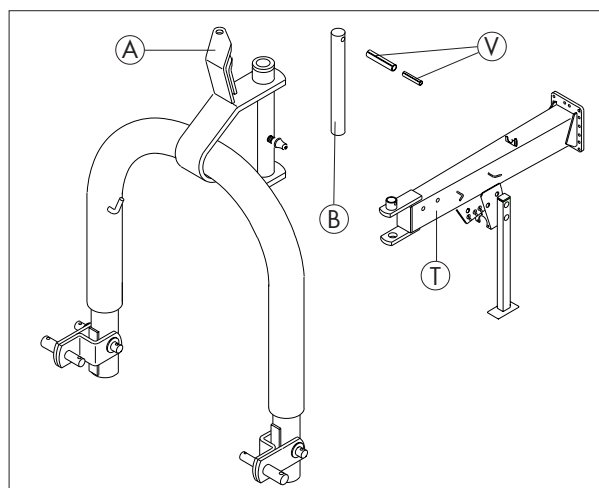

Fig. 3-4
Mount bracket for add-on supports (A) to longitudinal support (T) using bolt (B) and both dowel pins (V) (fig. 3-4). Use the content of bag U.